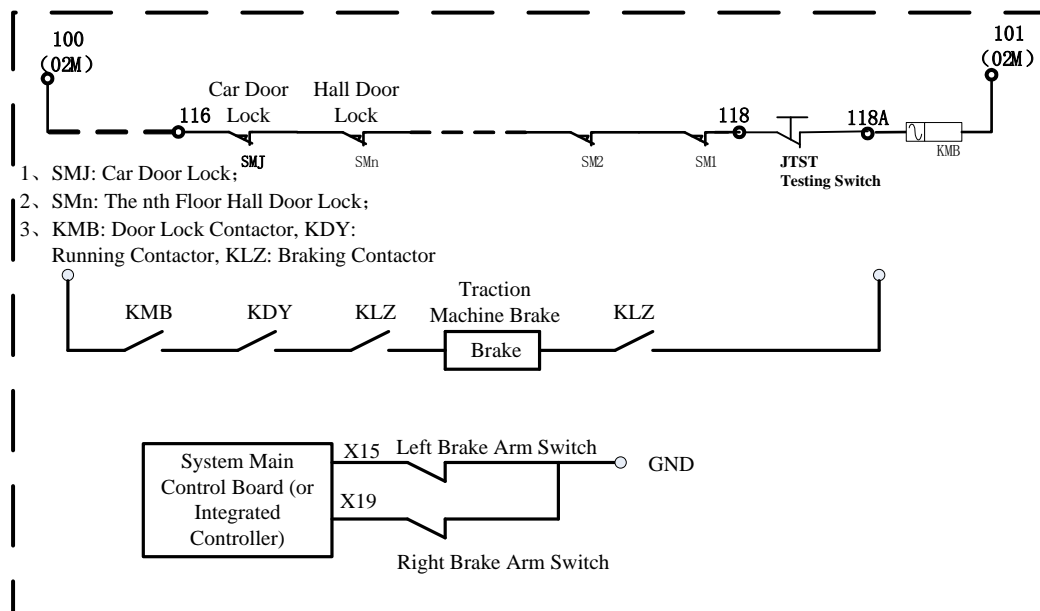

Figure F10.1 Control Loop Diagram of the Braking System
1. For elevators that do not have functions to open the door in advance or while car is in leveling, re-leveling or other operations, under certain conditions, and the braking device is operated by a well standard approval machine brake. Testing of unintended car movement is not required. (If a testing is demanded, install additional switch according to figure F10.1. The test can be performed by manually opening the switch when elevator is in leveling position, inspection mode and leaving the leveling zoom. This scheme is to simulate the situation that car door or hall door is open. And prevent door mechanism break caused by really open it.)